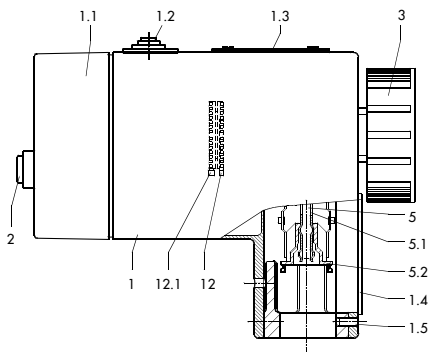

Fig. 2 · Type 5821-1, -2, -3 form-fit connection
#### Type 5821 Actuator (Figs. 2 and 3)
The actuators incorporating fail-safe action are essentially identical to Type 5821 Actuator presented in Fig. 2, except, however, that these actuators contain a connecting rod (6) with spring mechanism and an electromagnet. Another difference is that the handwheel (3) has been omitted.